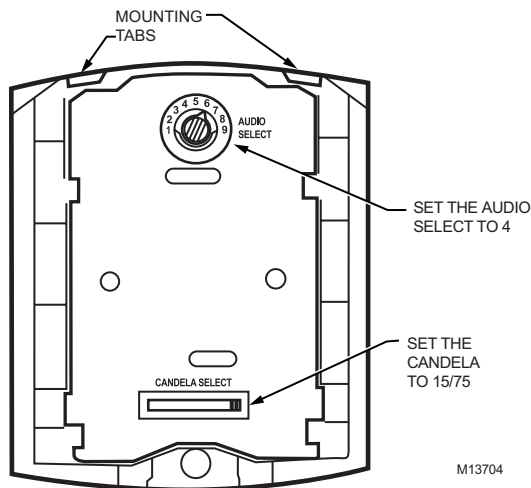

Fig. 6. Back of Strobe/Alarm
4. Adjust horn setting to #4 for continuous output at 75 dB. See Fig. 6.
6. To attach the strobe housing to mounting plate, hook tabs (Fig. 6) on the strobe housing into the grooves on mounting plate. Swing the strobe housing down into position to engage the pins with the terminals on the mounting plate. Make sure the tabs on the back of the strobe housing fully engage with the mounting plate.